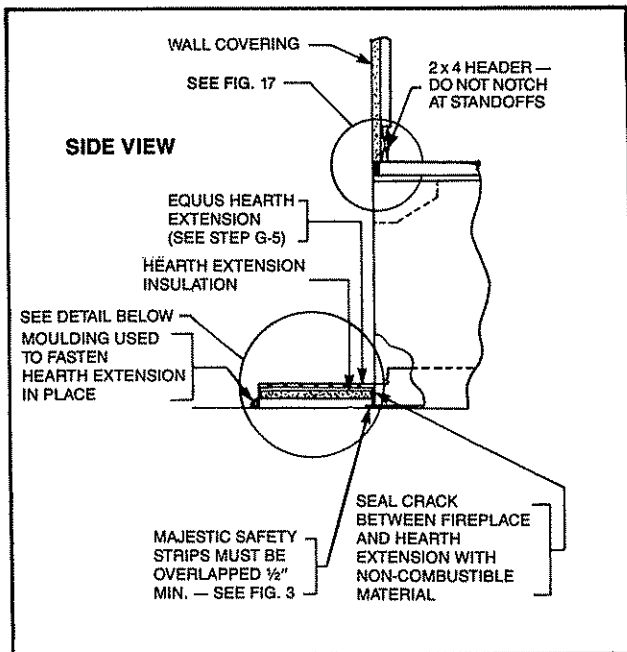

Fig. 21. Sealing detail.
Framing should be positioned to accommodate wall covering and fireplace facing material. (See Figs. 21 and 22 for typical arrangements.) Nailing tabs provided on the base of the fireplace can be used to position the fireplace, as well as anchor the fireplace. Nail through the tabs (4) into the floor. (See Figs. 4 and 16.)
Secure the hearth extension to the floor to prevent shifting, using trim molding or other similar means at the three (3) outer edges. Seal the crack between the fireplace hearth and the hearth extension with a non-combustible material. (See Figs. 21 and 22.)